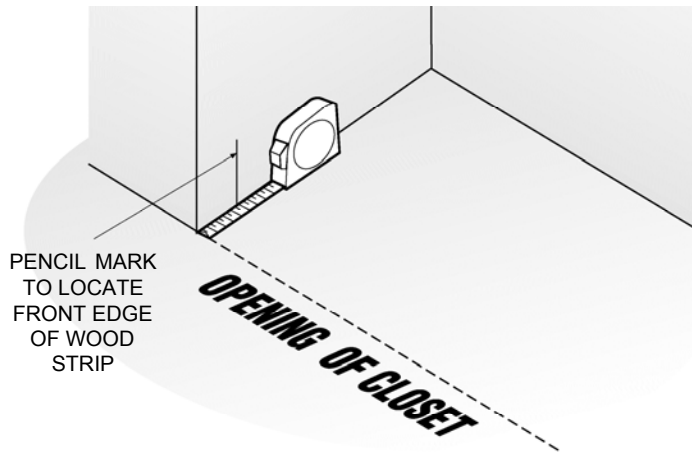

Figure 2
- C. Find the correct offset measurement using the **Offset Measuring Table** on Page 3 (**B Measurement**) for your particular installation. From the front edge of closet opening inward, measure using dimension from table and make a pencil mark on wall. Do this on both walls, i.e., right and left walls (See Figure 2).